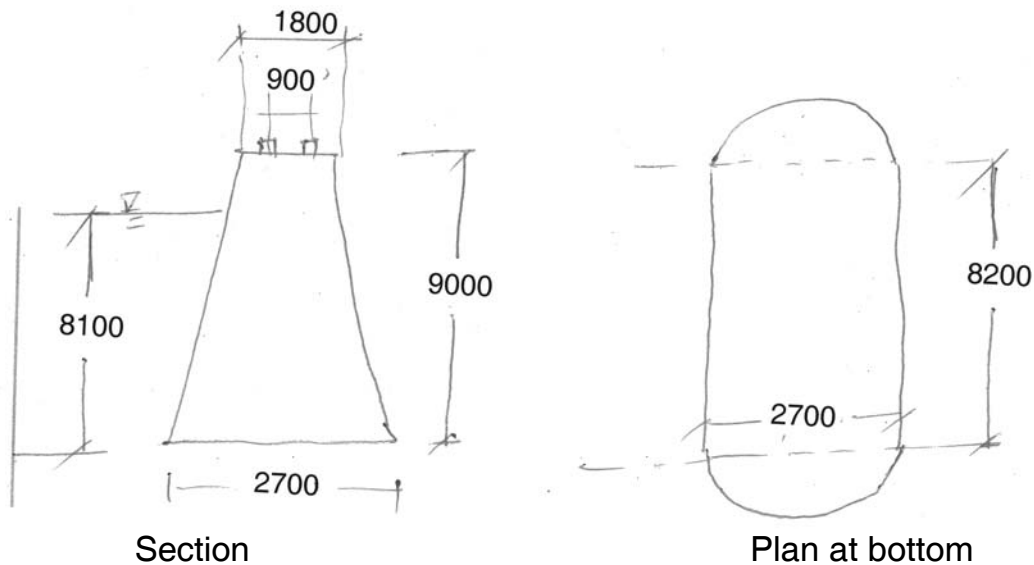

Fig. 4.1
4. Verify the stability of pier shown in fig. 4.1 for following data :